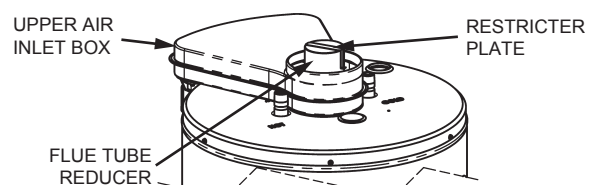

FIGURE 22
* If the horizontal distance is less than 760mm (30 in.), the restrictor plate must be installed (see Figure 22).